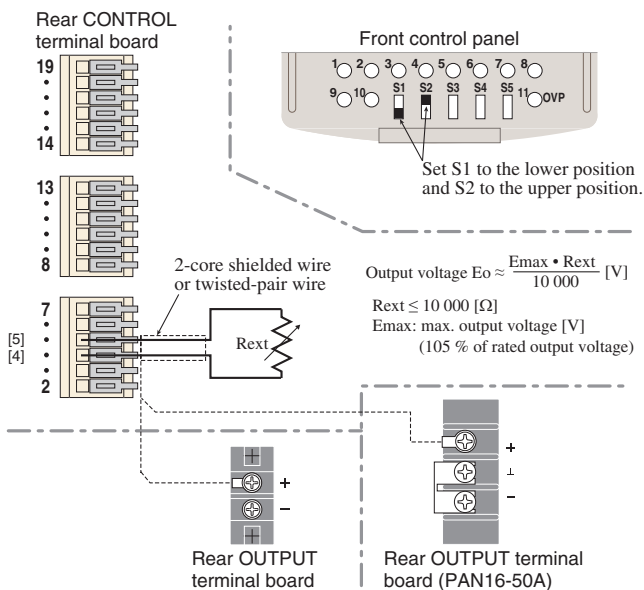

Fig.4-10 Connection and setup for output voltage control using external resistor
3. Set the control switches S1 and S2 as shown in Fig.4-10.
4. Connect an external resistor across the control terminals [4] and [5] as shown in Fig.4-10.